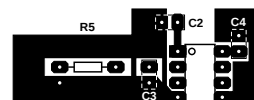

Figure 26. Top Layer of Printed Circuit Board Layout.
2. Exact offset value is dependent on layout of external bypass capacitors. The offset value in the data sheet corresponds to Avago's recommended layout (see Figures 26 and 27).
and ensuring that any ground plane on the PCB does not pass directly below the HCPL-7850. Using surface mount components can help achieve many of the PCB objectives discussed in the preceding paragraphs. An example through-hole PCB layout illustrating some of the more important layout recommendations is shown in Figures 26 and 27. See Applications Note 1078, *Designing with Avago Technologies Isolation Amplifiers*, for more information on PCB layout consideration.